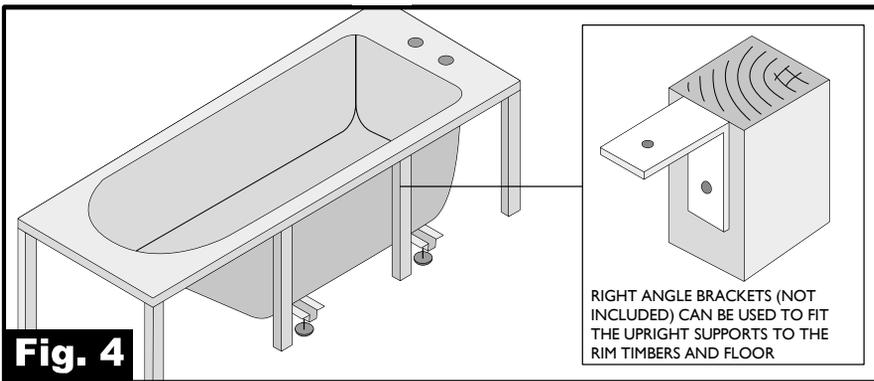

Fig. 4
additional wooden supports / framework as per illustration. This example involves the use of timber (chipboard) pads adhered to the underside rim which then support vertical timber batons which are fixed in place with the use of L brackets (Fig. 4/5).
13. Fit additional wooden supports/framework along the un-supported front and side rims of the bath as per illustration (Fig.4). Finally fix supporting framework to bath and floor.